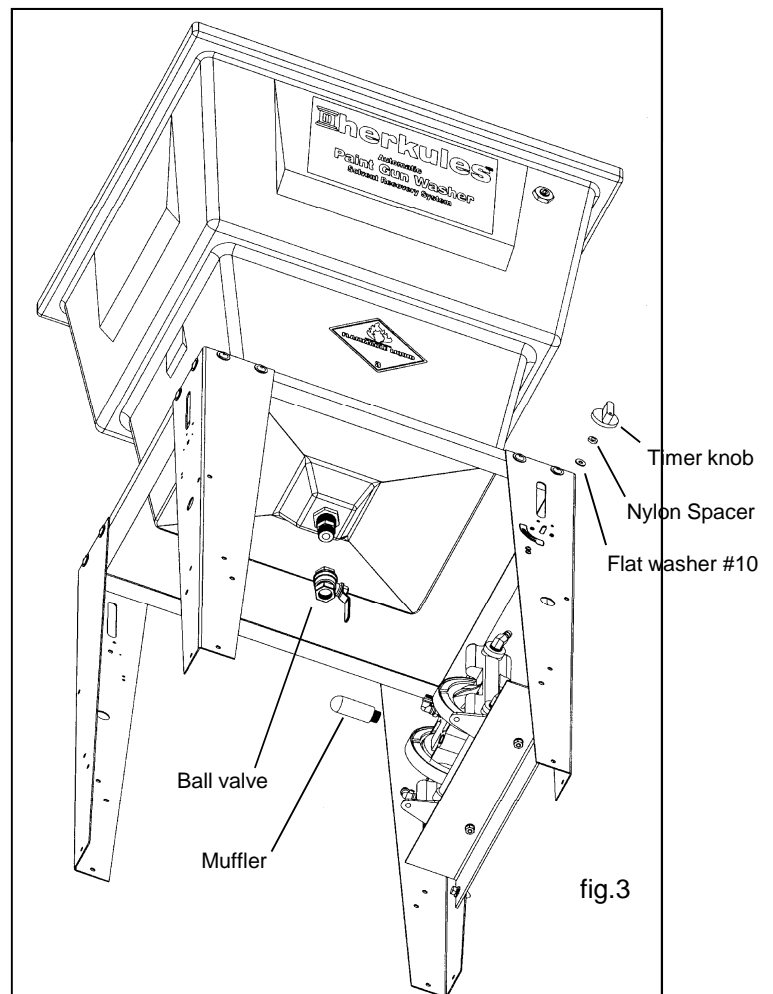

fig.3
Attach the ball valve to the reducing nipple on the bottom of the tub and set tub in the stand (see fig.3). Use a sealant on the ball valve/bulkhead to avoid leaking.
Attach the white plastic muffler to the exhaust port of the pump (see fig.3).
Slide (1) #10 flat washer then (1) 1/8" nylon spacer then the timer knob over the shaft protruding from the timer leg assembly (see fig.3)